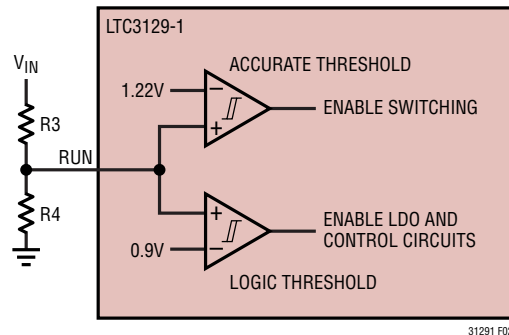

Figure 2. Accurate RUN Pin Comparator
**RUN (Pin 4/Pin 2):** Input to the Run Comparator. Pull this pin above 1.1V to enable the VCC regulator and above 1.28V to enable the converter. Connecting this pin to a resistor divider from VIN to ground allows programming a VIN start threshold higher than the 1.8V (typical) VIN UVLO threshold. In this case, the typical VIN turn-on threshold is determined by  $V_{IN} = 1.22V \cdot [1 + (R3/Pin\ R4)]$  (see Figure 2).
With the addition of an optional resistor divider as shown in Figure 2, the RUN pin can be used to establish a user-programmable turn-on and turn-off threshold. This feature can be utilized to minimize battery drain below a certain input voltage, or to operate the converter in a hiccup mode from very low current sources.